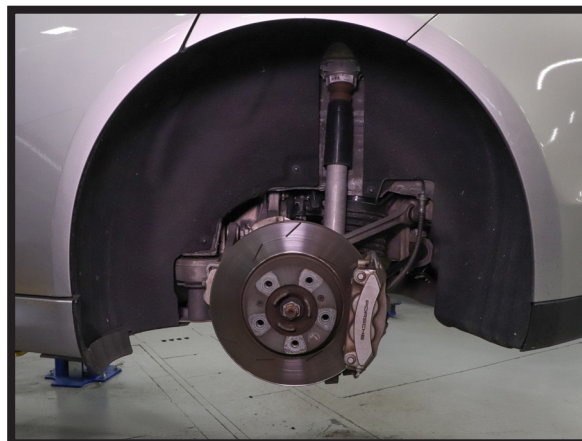

FIGURE 1
2. REMOVE APPLICABLE REAR WHEEL. (FIGURE 1)